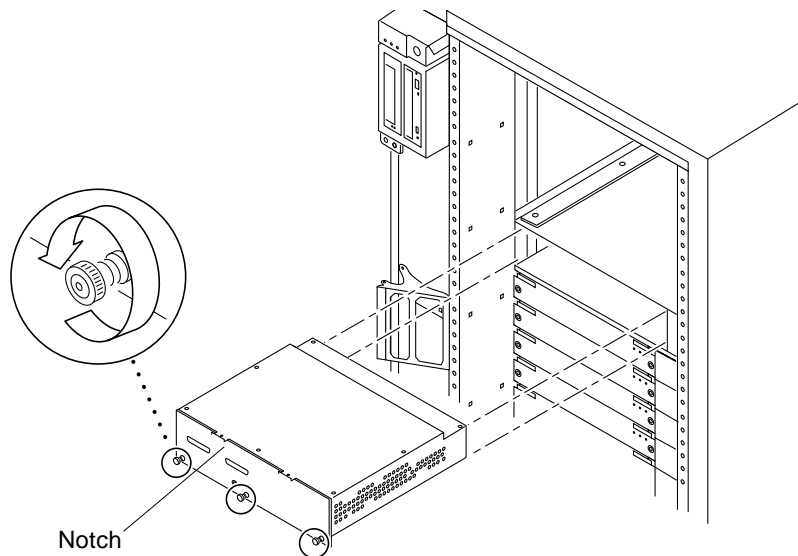
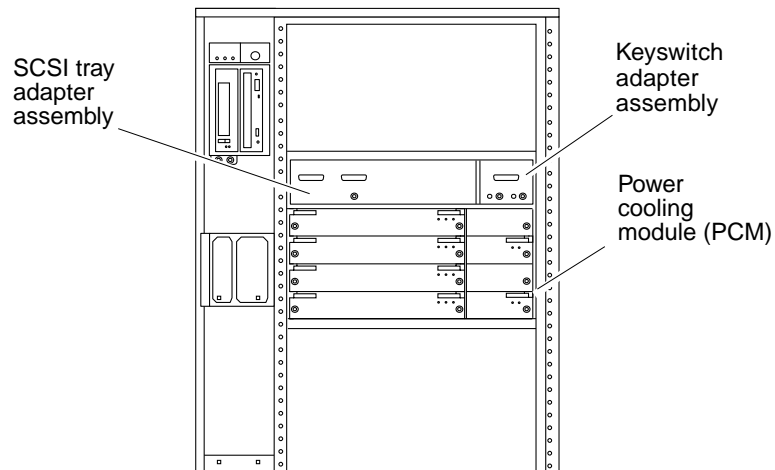

FIGURE 1-3 SCSI Tray Adapter in Sun Enterprise 5000 System
FIGURE 1-4 Sun Enterprise 5000—Front View
1. Place the SCSI tray adapter assembly (FIGURE 1-3) and the keyswitch adapter assembly (FIGURE 1-4) in the front of the system.